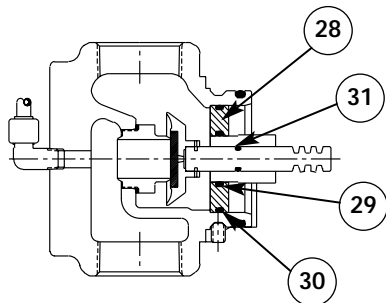

Figure 5
5. Remove the regulator top and the diaphragm assembly where it engages with the lever (2). Caution should be used not to damage the diaphragm assembly during disassembly.
6. Remove the lever (2) and plunger (1).
7. Degrease plunger and install plunger O-Ring (31).
8. Lubricate plunger (1) and O-Ring assembly using O-Ring grease or all-purpose silicon grease and reinstall plunger and lever.
11. Install the main spring (14), spring follower (9), and lock nut (5); replace the seal cap.
13. Remove the seat disc assembly (13) from the plunger (1).
14. Assemble the two remaining O-Rings (29) and (30) and the isolation plate (28) and lubricate using O-Ring grease or all-purpose silicon grease.
15. Install the isolation plate (28) around the plunger guide (Figure 5).
16. Reinstall the seat disc assembly (13).
17. Lubricate the inside bore of the valve head as well as the outside O-Ring with O-Ring grease or all-purpose silicon grease. Attach the regulator to the valve head and torque the three retaining setscrews (6) to 75 inch pounds.